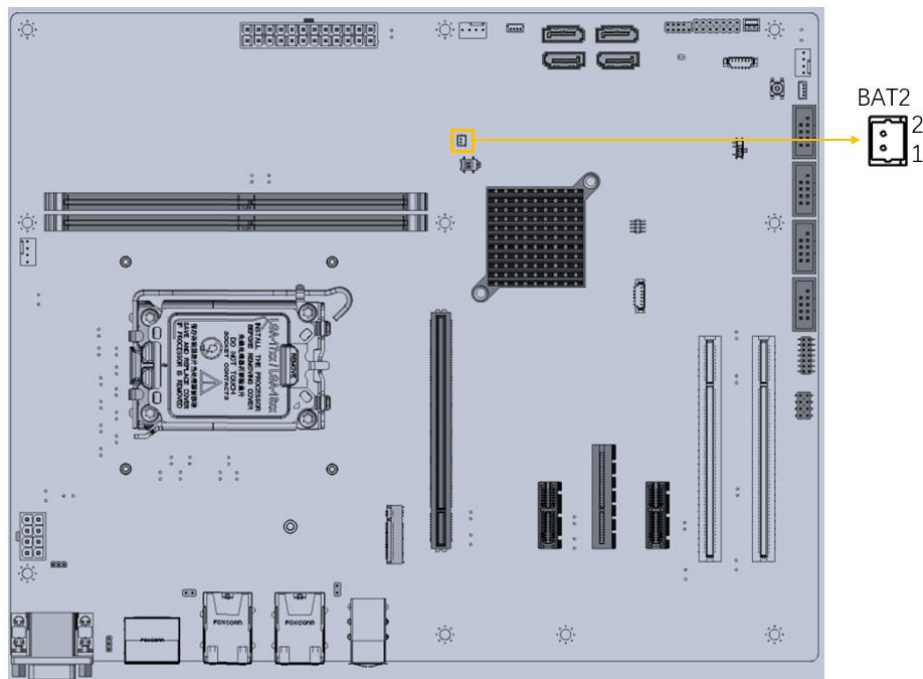

Figure 3-9: RTC Battery Connector Location
- CN Location:** See **Figure 3-9**